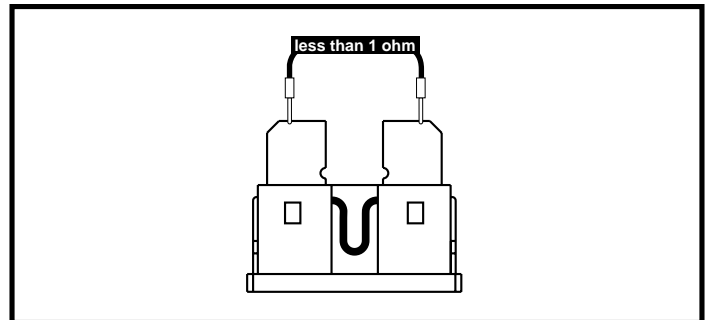
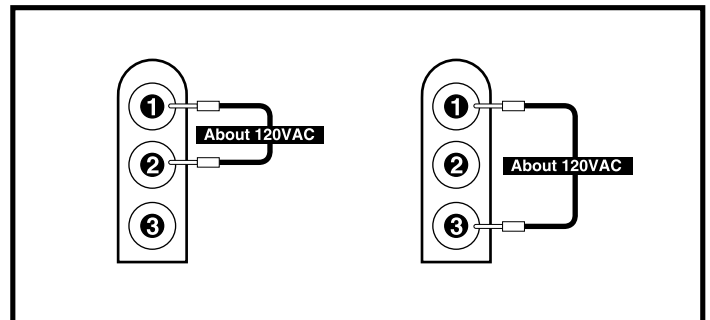
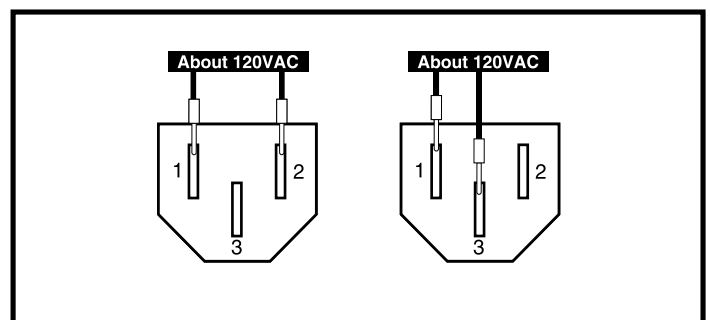

Figure 18. Fuse 10c
Figure 19. Connector 11a
Figure 20. Charger Power Cord Connector
- *If your multimeter indicates about 25 — 30VDC, then measure resistance across the two blades on fuse 10c. See figure 18.*
- *If your multimeter indicates less than 1 ohm, then replace the charger/inhibit harness (10) and retest the system.*
15. Measure AC voltage across pin 1 and pin 3 on connector 11a and across pin 1 and pin 2 on connector 11a. See figure 19.
- *If your multimeter indicates 120VAC in both instances, then replace the battery charger (9) and retest the system.*
17. Measure voltage across pin 1 and pin 2 and across pin 1 and pin 3 of the charger power cord's 3-pin connector. See figure 20.